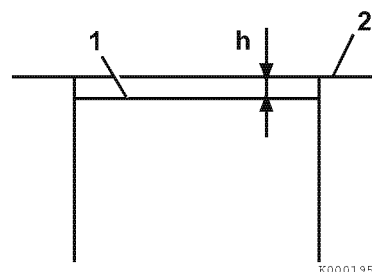

Figure 6-25
3. Use a depth micrometer to measure the distance (**h**) from the cylinder block surface (2, **Figure 6-25**) to the top of the piston (1, **Figure 6-25**). Be careful to avoid the valve relief pockets and any marks stamped on the piston. Take the average of two measurements, 180° apart and in line with the piston wrist pin and record the measurement (**h**).